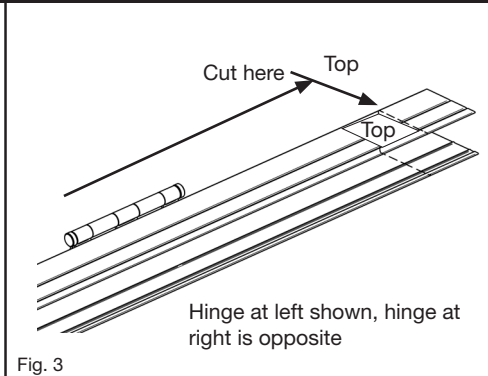

Fig. 3
**Note:** Use masking tape around channel where measuring and cutting will be done. (It reduces scrapes from cutting, and it is easy to mark a line with any type of pen) (Fig. 3).